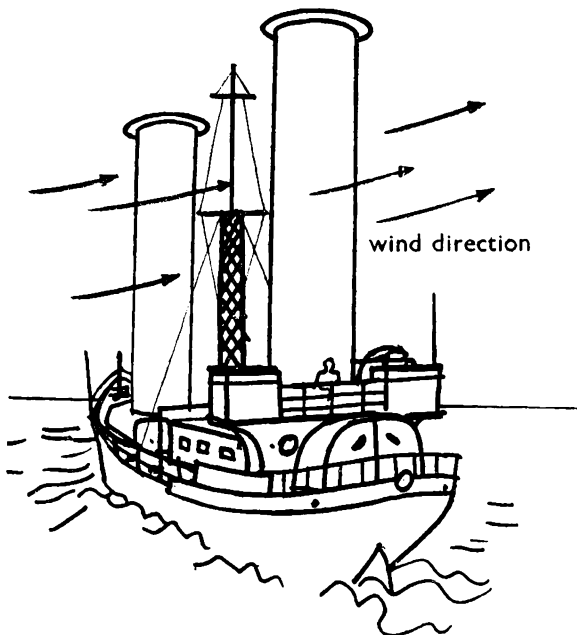

Fig. 32
An experimental ship once crossed the Atlantic using two rotating cylinders instead of sails. *If the wind were blowing in the direction shown (Fig. 32) would the cylinders have to rotate in a clockwise or anticlockwise direction as seen from above?* (19)